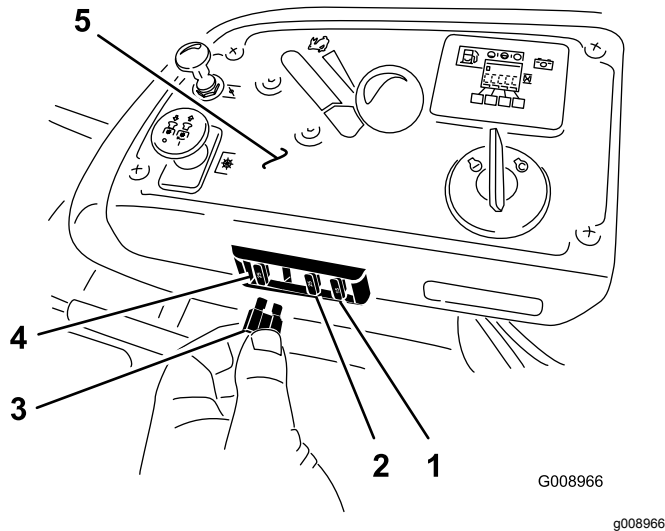

Figure 61
1. The fuses are located on right hand console next to the seat (Figure 61).
3. Install a new fuse (Figure 61).